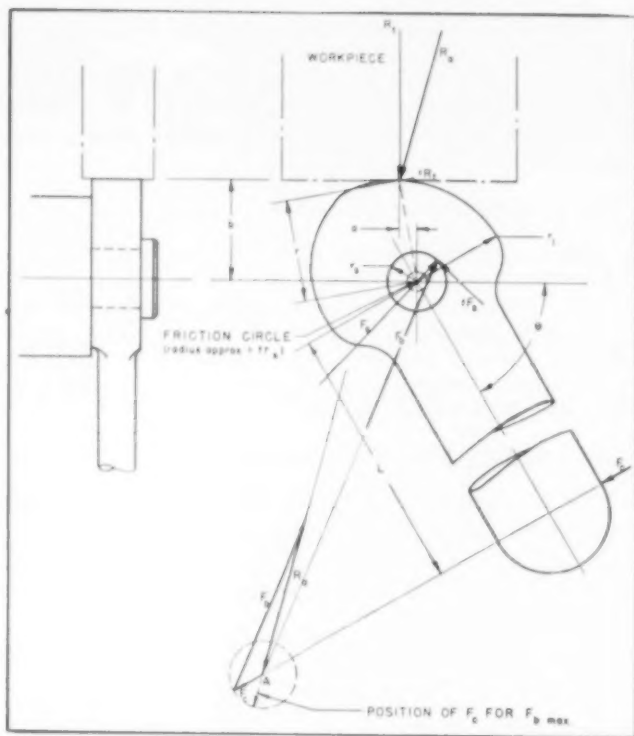
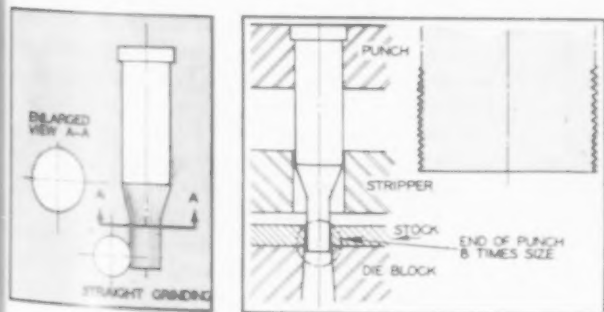
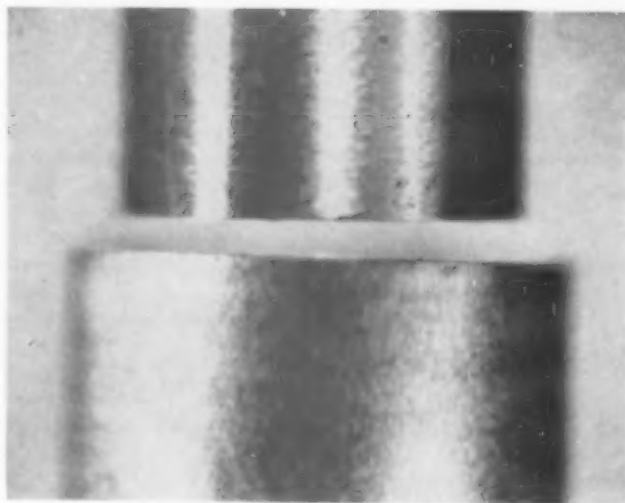

Fig. 2. Illustrated above are the forces which act on a spiral cam at engagement.
Fig. 1 (left) shows the direction of grinding lines on a straight ground punch, as opposed to cylindrical grinding (Fig. 2, right).
Fig. 3 The contrast between straight grinding (punch at bottom) and cylindrical grinding is shown in the micro-photo above.
The thickness of the cam also determines partly the load of the pivot or shaft on which the cam is mounted. If the cam rotates on the pivot, as in Fig. 2, the projected area (length X diameter) of the bearing must be large enough to keep the unit pressure on it below 3000 to 4000 psi in keeping with accepted practice for bearings for slow speed and intermittent loads (3).
The lever arm L , of Fig. 2 and the applied force F_c , make the applied torque, which is
Example 1: A spiral cam clamp like that of Fig. 2 must impose a force of 900 pounds on the workpiece. The handle can be pulled through 90 deg with a minimum force of 30 pounds, which at times may be as high as 90 pounds. The desired rise is $1/8$ inch. A shearing stress of 10,000 psi in the pin is acceptable. The cam is of steel to be hardened to 400 Bhn. Find the size of the pin, the minimum radius, lead, and thickness of the cam, and the lever arm needed.
The general scheme for production grinding the cam track can be visualized from Fig. 2. A master cam A, attached to the work head, actuates a follower roll B. The latter, mounted on a swinging spindle head, in turn controls and determines the path that the grinding wheel C shall take in grinding the cam path on the component, which is located and clamped to the front of the master cam A.
To maintain accurate distance between the centerline of the follower roll and the center line of the grinding wheel, the part of the fixture to which the follower roll is attached was made adjustable. Sliding on gibs, this part can be unloosened and moved in or out by a knob, designated by letter B in Fig. 2. A dial indicator, fastened to a V-block, is used for setting and checking center-to-center distance. For the final grind, the grinding wheel must be an exact diameter,
as indicated by Fig. 3. To insure the required accuracy, a fixture was designed to hold the diamond dressing tool and to control the feed thereof. This fixture—designated by F, Fig. 2—was attached to the spindle head.
Fig. 1. Outline of chain cam and gear, showing the cam track. This chain cam gear, which is a part for one of the gun mounts used by the Navy, actuates the tray and ramming mechanism.
Fig. 2. Close-up of the setup showing chain cam and gear in position for cam grinding operation. Letters A, B, C, D, E, F and G indicate respectively master cam, follower roll, grinding wheel, swinging spindle head, adjusting knob for follower roll, diamond wheel dressing fixture and locating block for angular location.
An arbor was made and inserted in place of the grinding spindle, at the end of which was a free-rolling follower $1\frac{1}{2}$ in. in diameter. Free to roll and move in the cam path as the component slowly rotated, this follower now governed the swinging spindle head so that the grinding wheel would finish grind the correct contour on the master cam. A locating block on the master cam, designated by G, Fig. 2, engaged gear teeth at a marked point on the component (Fig. 1). This assured correct positioning of the chain cam and gear when mounted.
Fig. 3 shows a standard grinding wheel dressed, relieved and chamfered to permit straight side grinding of the cam track.
Elimination of the weakening effect of machining and grinding surface imperfections is equally important. The point diameter should be ground concentric with the shank diameter for accurate alignment, and in such a manner that the surface imperfections run parallel to the punch axis and the line of action (see Fig. 1) rather than at right angles as would be the case if the point diameter were merely cylindrical ground (see Fig. 2). This can be seen in the binocular micro-photo shown in Fig. 3 of a straight ground and a cylindrical ground punch.
The surface condition at the cutting edge of the punch is a significant consideration in evaluating the difference in performance between the two types of grinds. Studies indicate that after a punch has been used for a short while the cylindrically ground punch chips and turns over at the edge earlier than does the straight ground punch. This can again be seen in Figs. 1 and 2. Punches do not differ from other cutting tools wherein it has been proven that honing or stoning the cutting edge to provide a more uniform surface increases the tool life between grinds. In a cylindrically ground punch this is not possible, while on the straight ground punch the hills and valleys of the surface run lengthwise and therefore provide full backing and a multiple cutting tooth action that in itself greatly increases the life of the punch between grinds.